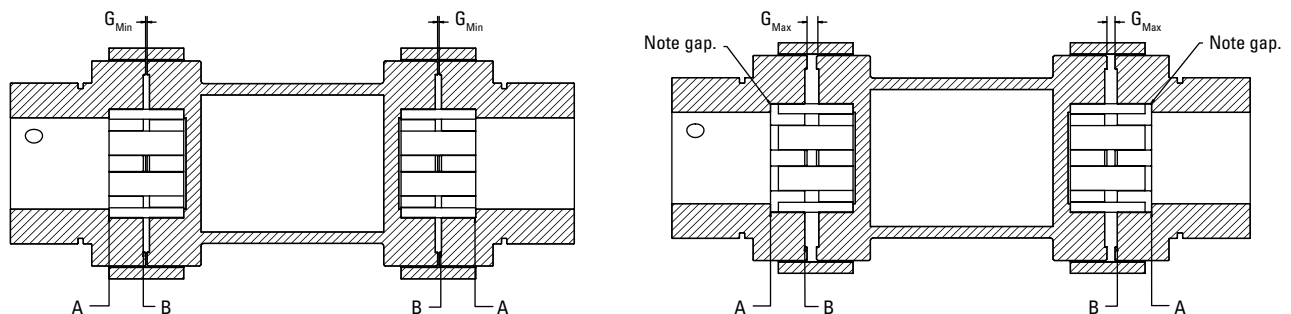

Fig. 10. Proper shaft-to-hub engagement.
1. Install the hubs. They should be mounted so the end of the shaft is flush with surface "A" as shown in fig. 10.
2. Install the spacer body and inserts. Slide all three components (spacer body and two inserts) tight to one side and check the gap from the insert face to hub flange face shown as surface "A" in fig. 10. This should not exceed $[(2 \times G_{Max}) - (2 \times G_{Min})]$ using the appropriate minimum hub gap (G_{Min}) and the maximum hub gap (G_{Max}) from table 20. If this gap exceeds your calculation, adjust one or both hubs to set within specs, paying attention not to have the shaft end extend past surface "B" as shown in fig. 10.